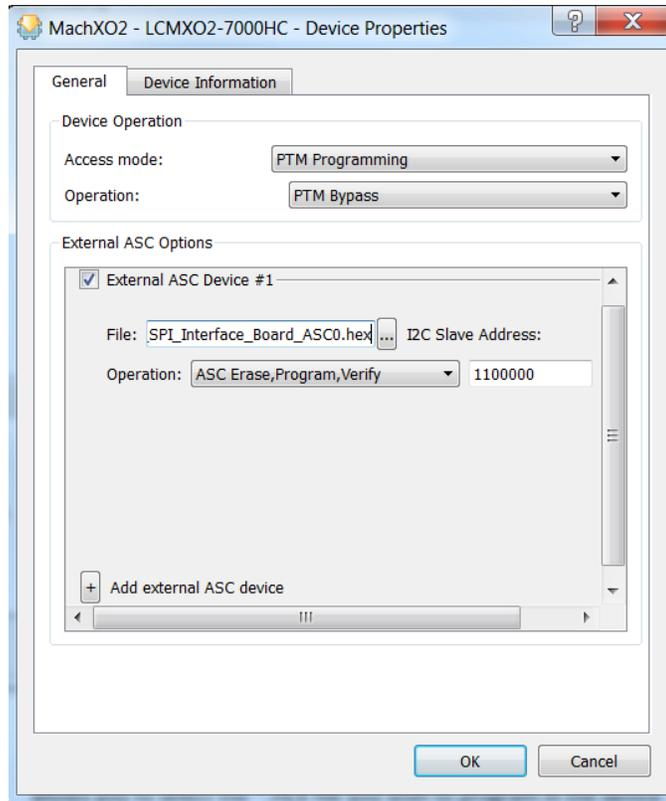

**Figure 5.15. ASC Socket – Add External ASC Device**
- Add an external ASC device, by clicking the  button as shown in Figure 5.15. The dialog box appears as shown in Figure 5.16 on the next page.